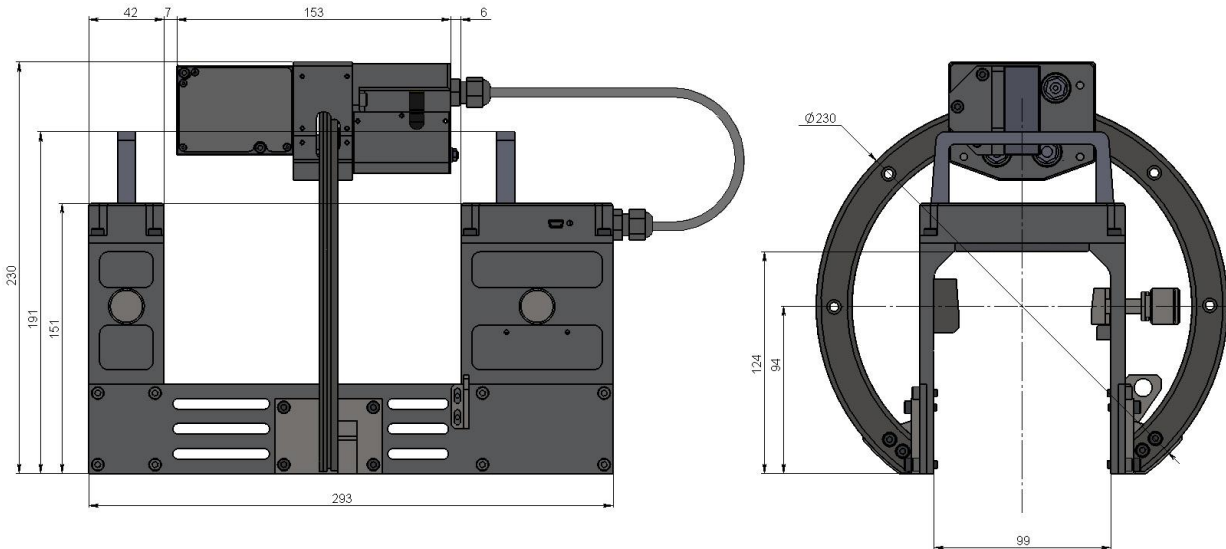

Figure 3
Laser module dimensions, mm	Fig. 3
- (1) ON/OFF button
- (2) Indicator of Bluetooth connection (blue LED)
- (3) Indicator of turn ON (red LED)
- (4) Support for mounting of the device on the rail
- (7) Input window of laser sensor
- (8) Output window of laser sensor
- Overall dimensions of scanning module are shown in Figure 3.